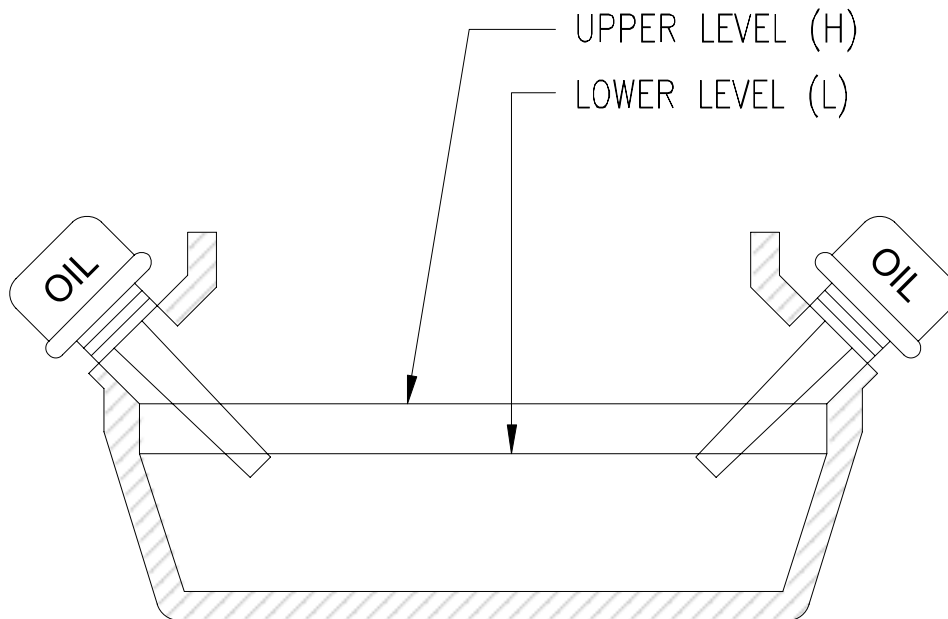

Figure 4-1. Oil Level
- (1) Check oil level indicated on dipstick, see Figure 4-1. The proper viscosity of oil should be used for the following conditions: (Refer to Items 13 and 14, Appendix E.)